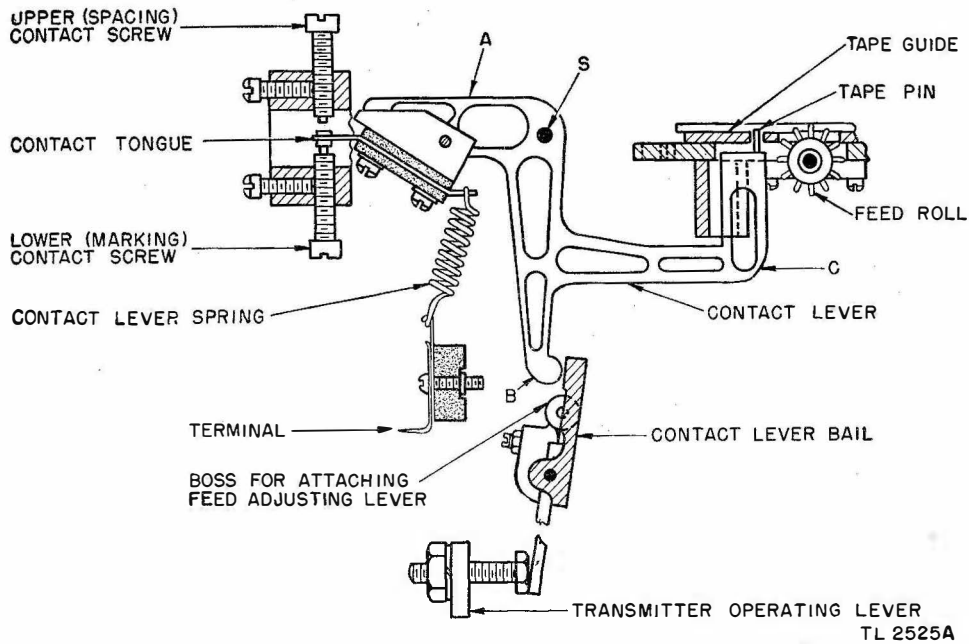

Figure 23. Tape sensing mechanism, cross section.
b. Figure 23 shows the contact lever. The lever has three irregularly shaped extensions, A, B, and C, and is pivoted as indicated by the designation S. Extension C is turned up at one end, and a small tape pin, projecting vertically upward, is set into the end of the extension. Extension B extends vertically downward and engages the contact-lever bail. The contact tongue assembly is attached to extension A by a pivot located at the rear edge of the contact tongue. The five contact levers are mounted on the same shaft S, and are spaced so that the distance between the tape pins is the same as the distance between the perforations in the tape.
- (2) Immediately after the main shaft begins to turn, the operating lever roller rides off the peak of the operating cam (fig. 24) and releases pressure on the contact-lever bail (figs. 24 and 25). When pressure on the bail is released, the contact-lever springs rotate the contact levers on shaft S (fig. 23), so that the tape pins move upward through the openings in the transmitter top plate. If there is a perforated tape in the transmitter as the tape pins move upward, those pins which have holes above them in the tape pass through the holes and continue to move upward until the associated contact tongues rest against their marking (lower) contact screws.
- (3) If there is no hole in the tape directly above a contact pin, the upward movement of the pin is blocked by the tape, and the associated contact remains against its spacing (upper)